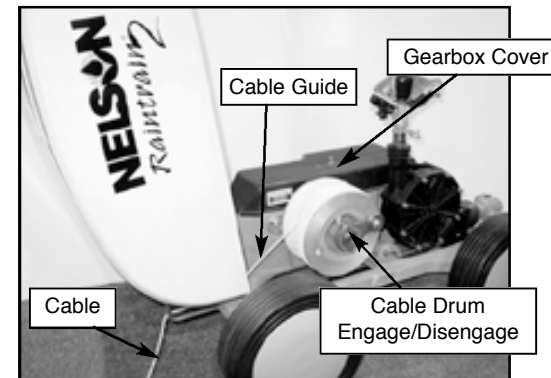

Figure 8. Left hand view of machine with cover open.
2. Carefully remove the gearbox cover (see Disassembly and Assembly) and inspect the gears for any missing teeth or abnormal wear (see figure 8). Your RainTrain2® gearbox does not require any further lubrication. Verify that the three drain holes in the bottom of the gearbox are not plugged. Make sure that there is no debris in your RainTrain2® gearbox. Replace the cover.
3. Pull the cable completely out of the unit and inspect for worn or frayed strands (see figure 8). If any strand is broken, the cable should be replaced.
5. Inspect the cable guide pulley at the front of the unit (see figure 8). This pulley does not require lubrication. The pulley should rotate freely. If the pulley does not rotate freely, disassemble, clean, and replace (See Disassembly and Assembly).